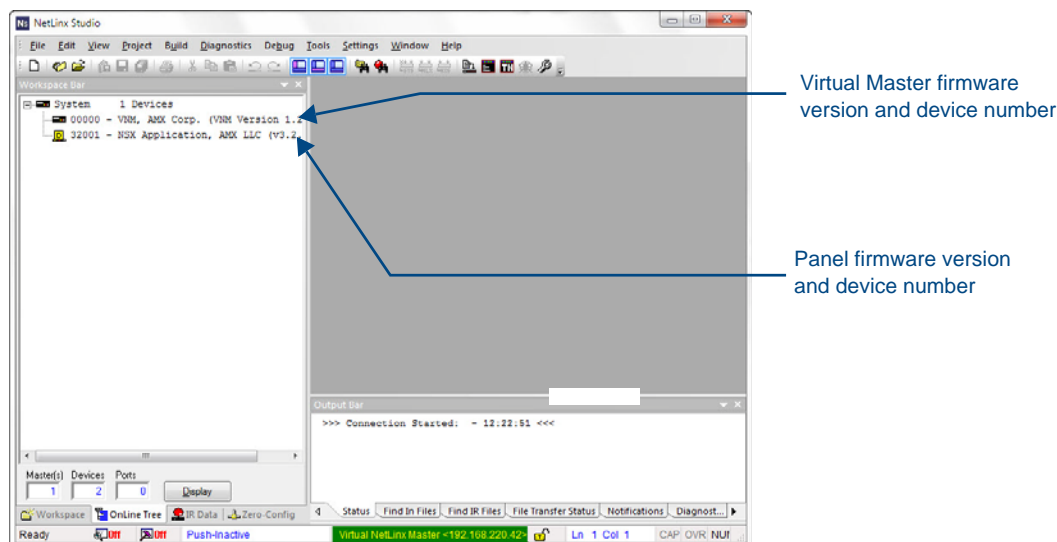

FIG. 20 NetLinX Workspace window (showing panel connection via a Virtual NetLinX Master)
1. After the *Communication Verification* dialog window verifies active communication between the Virtual Master and the panel, click the **OnLine Tree** tab in the Workspace window (FIG. 20) to view the devices on the Virtual System. The default System value is 1.
2. Right-click on the System entry (FIG. 20) and select **Refresh System** to re-populate the list. Verify the panel appears in the **OnLine Tree** tab of the Workspace window.